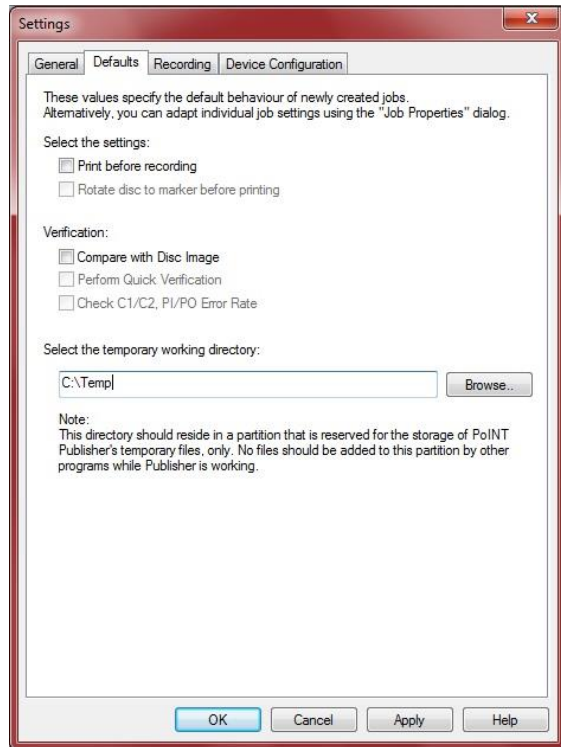

fig.6
- First go to your C: or D: drive (if you have more than one hard drive) and create a folder called “Temp”. Then select the “Defaults” tab and select this folder as the “Temporary Working Directory”. Make sure this folder remains empty as the software will add and remove temporary files during job processing. (fig.6)